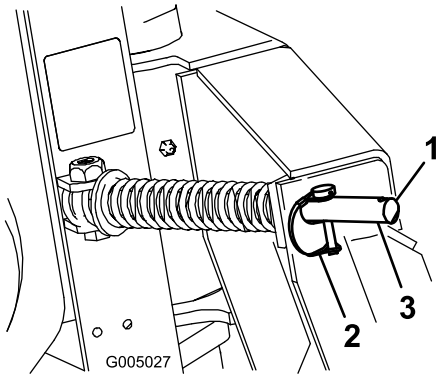

Figure 5
1. Move the lynch pins to the outside holes on the spring rods to allow the plow to move from side to side (Figure 5).
1. Move the lynch pins to the inside holes on the spring rods to prevent side-to-side movement (Figure 5).